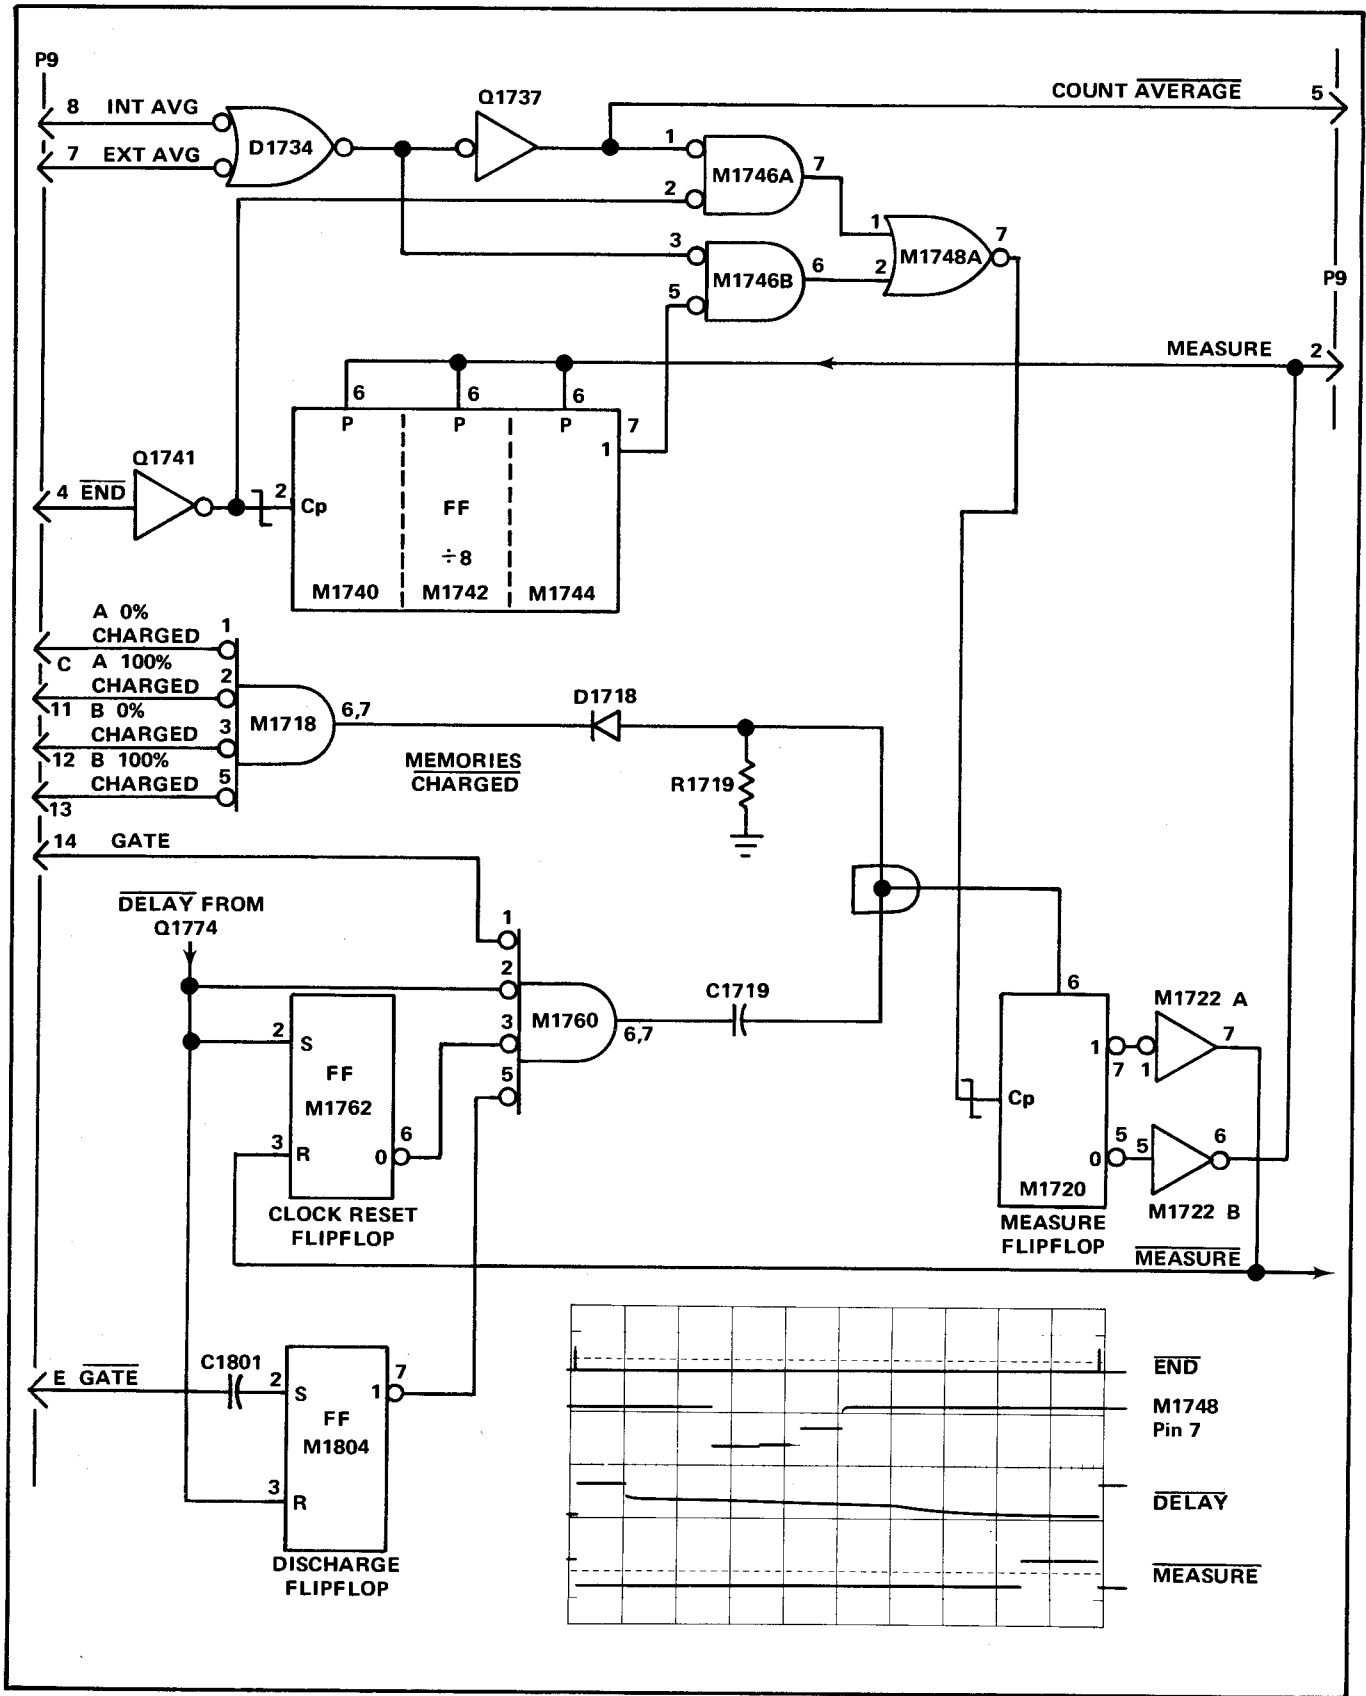

Fig. 4-29. MEASURE pulse generation (synchronizer model 3-up).
During the memory-charging sweep, the low level of MEMORIES CHARGED through D1718 from M1718 (see Fig. 4-29)
**Average-of-Eight Mode.** The MEASUREMENT AVERAGING switch on the front panel of the Type 230, and a corresponding rear-panel program line, provide a means of averaging the readout of eight consecutive measurements (see Fig. 4-29). With the switch set to the 1 position (or the program line open), operation of the MEASURE pulse circuit is as previously described. In average-of-one mode, even though  $\div 8$  counter M1740, M1742 and M1744 is clocked by each inverted END pulse, the counter is again preset by each MEASURE pulse, so that no change is ever seen at the counter output. With the switch set to the 8 position or EXT AVERAGE is programmed, the END pulses are divided by eight before MEASURE and MEASURE are generated, and eight measurements are made before the counter is preset. At the same time, the gated clock pulses are divided by eight in the clock circuit so that the measurement is divided by eight before being read out.